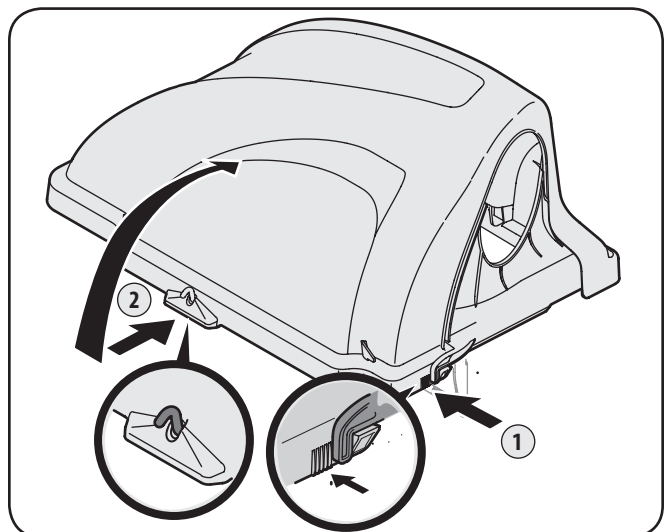

Figure 4-12
- Open Hood by pushing in on the rear, right-side tab with your right hand, as seen in 1 of Figure 4-12, and lifting the cover with your left hand in the center rear of the bagger cover, 2.